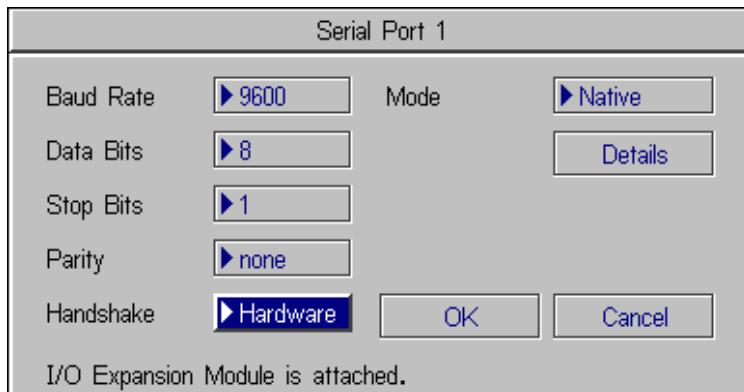

Figure C-18: Serial Port Dialog, Hardware Handshaking Enabled
6. Select Hardware from the Handshake drop-down list (Figure C-18).